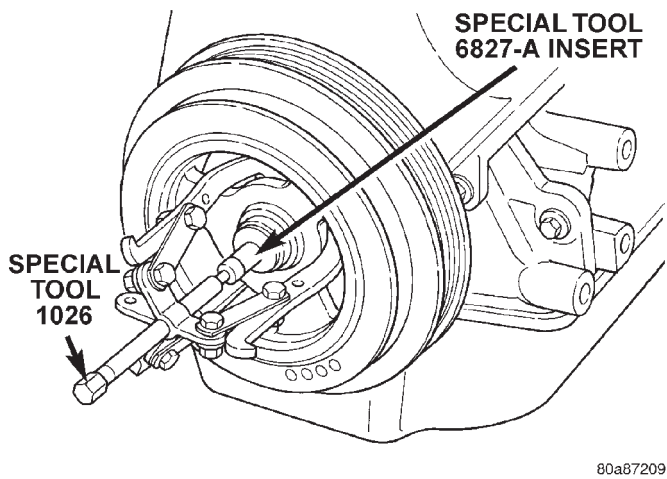

Fig. 60 Crankshaft Damper—Removal
- (4) Remove crankshaft damper bolt. Remove damper using the large side of Special Tool 1026 and insert 6827-A (Fig. 60).